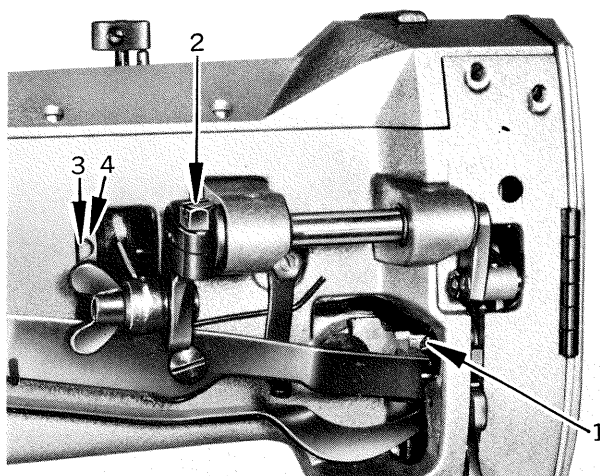

Fig. 22
2. Raise the presser bar lifter and loosen the set screw (1, Fig. 22).
2. Loosen the hexagon screw (2, Fig. 22) and move the presser foot up or down as may be required.
2. Loosen the two screws (3, Fig. 22) and adjust the rotating position of the cam (4, Fig. 22) faster or slower as may be desired.